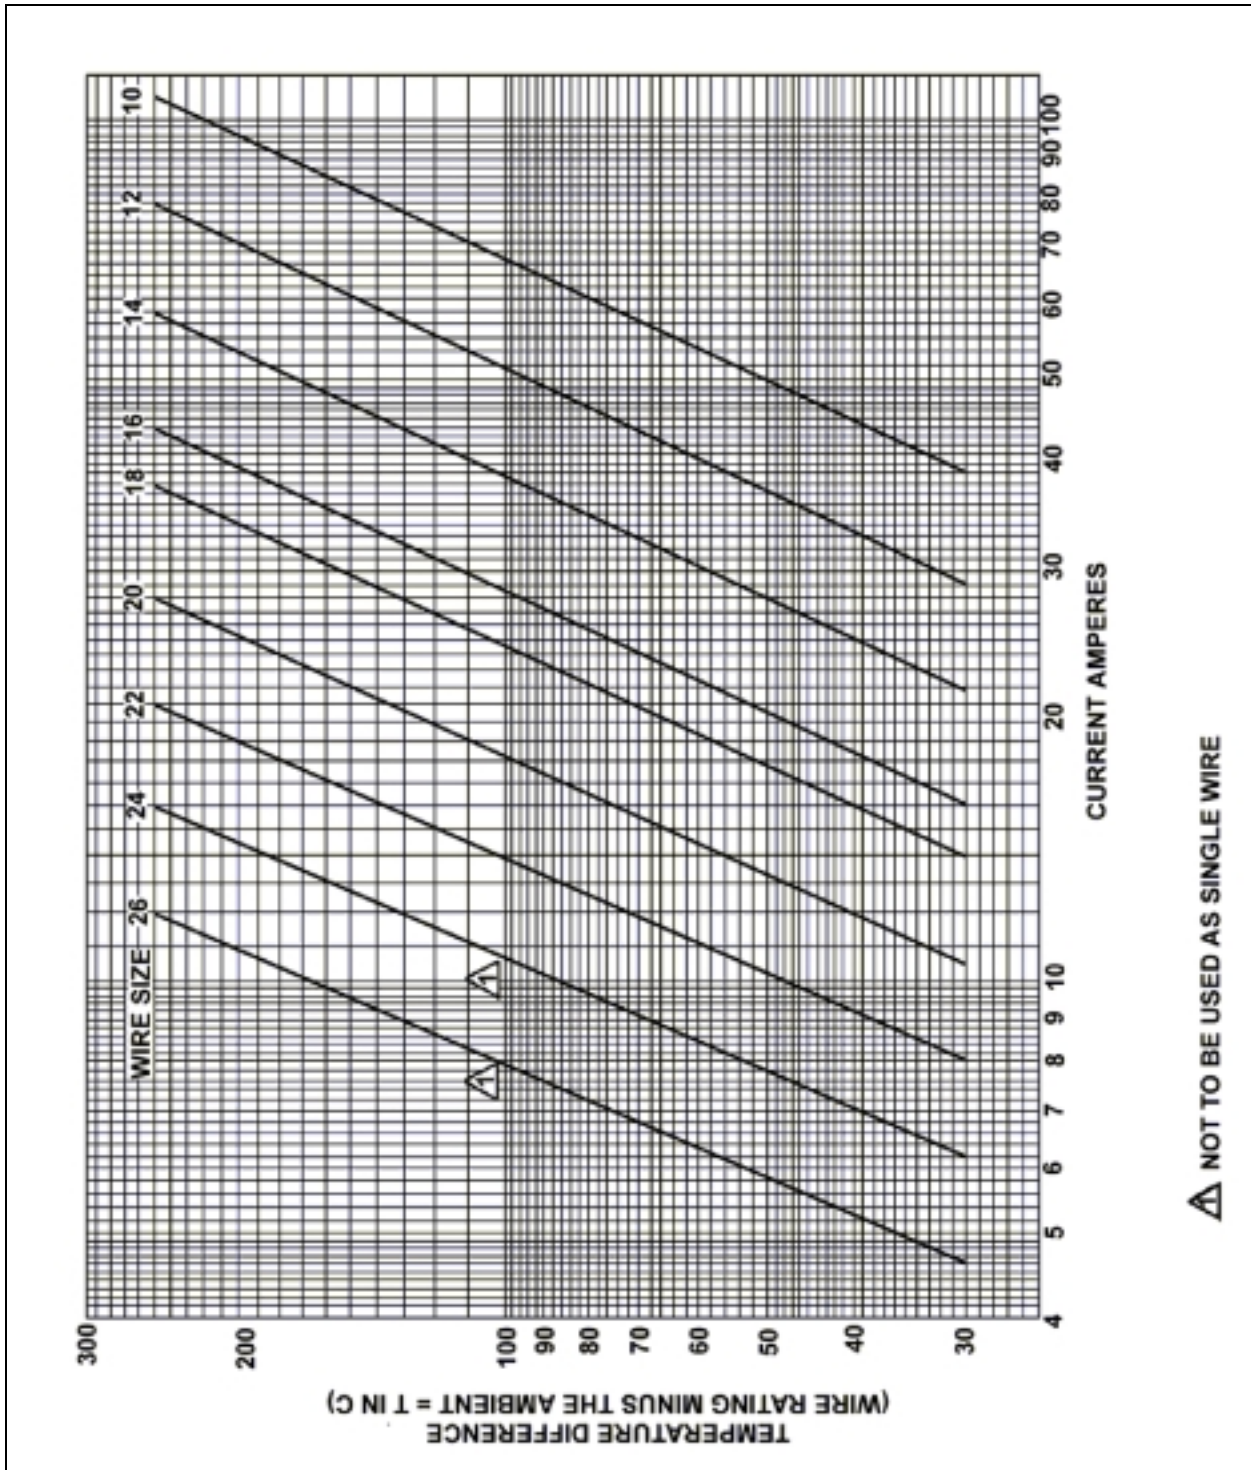

FIGURE 11-4a. Single copper wire in free air.
**c. Single Wire in Free Air.** Determining a wiring system's current carrying capacity begins with determining the maximum current that a given-sized wire can carry without exceeding the allowable temperature difference (wire rating minus ambient °C). The curves are based upon a single copper wire in free air. (See figures 11-4a and 11-4b.)
**STEP 1:** Assuming that the recommended load bank testing described in paragraph 11-66d(5) is unable to be conducted, then the estimated calculation methods outlined in paragraph 11-66d(6) may be used to determine the estimated maximum current (Imax). The #14 gauge wire mentioned above can carry the required current at 50 °C ambient (allowing for altitude and bundle derating).
(1) Use figure 11-4a to calculate the Imax a #14 gauge wire can carry.
$I_{\max} = 37$  amps (this is the maximum current the size #12 wire can carry at 50 °C ambient. Use calculation methods outlined in paragraph 11-69 and figure 11-4a.
**STEP 1:** Refer to the “single wire in free air” curves in figure 11-4a. Determine the change of temperature of the wire to determine free air ratings. Since the wire will be in an ambient of 60 °C and rated at 200 °C, the change of temperature is 200 °C - 60 °C = 140 °C. Follow the 140 °C temperature difference horizontally until it intersects with wire size line on figure 11-4a. The free air rating for size #20 is 21.5 amps, and the free air rating for size #22 is 16.2 amps.
**STEP 1:** Refer to the “single wire in free air” curve in figure 11-4a, determine the temperature difference of the wire to determine free air ratings. Since the wire will be in ambient of 25 °C and 60 °C and is rated at 200 °C, the temperature differences are  $200\text{ °C} - 25\text{ °C} = 175\text{ °C}$  and  $200\text{ °C} - 60\text{ °C} = 140\text{ °C}$  respectively. Follow the 175 °C and the 140 °C temperature difference lines on figure 11-4a until each intersects wire size line, the free air ratings of size #12 are 68 amps and 61 amps, respectively.